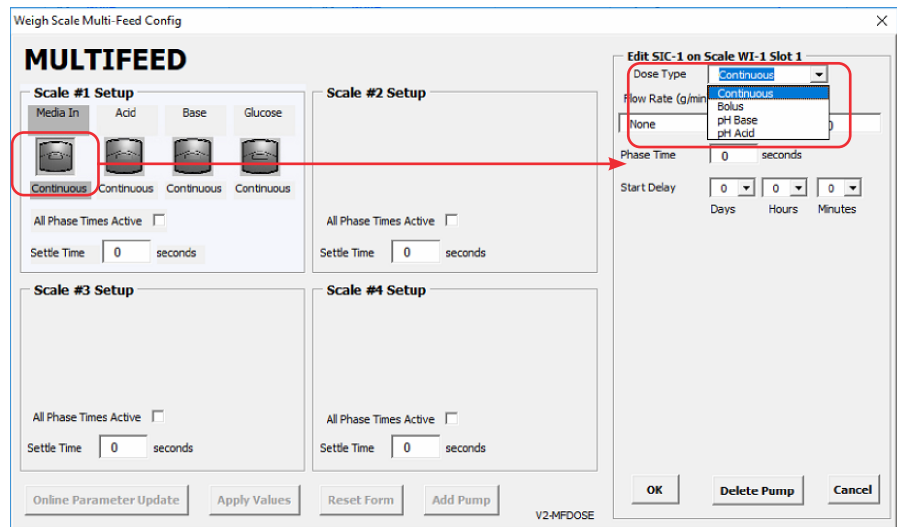

Figure 5.44. Selecting dose type.
3. Choose a dose type from the dropdown: **Continuous**, **Bolus**, **pH base**, or **pH acid** (Figure 5.44). Click **OK**.